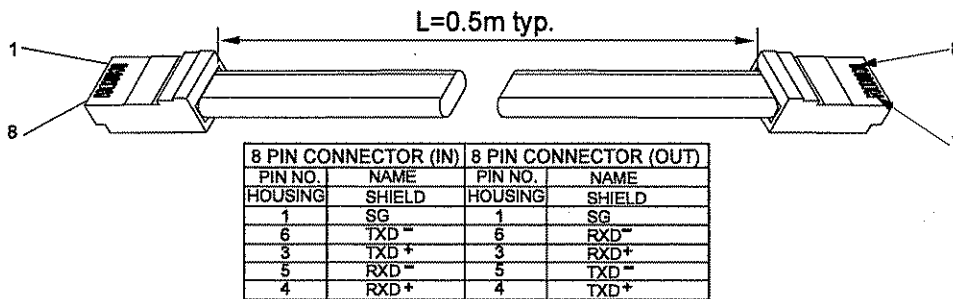

Fig.7-6: Serial link cable with RJ-45 shielded connectors (P/N: GEN/RJ-45)
- Using the Linking cable supplied with each unit (refer to Fig.7-6), connect each unit OUT connector to the next unit IN connector.